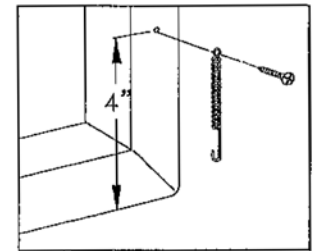

FIGURE 4
2. USING THE SCREWS PROVIDED, FASTEN THE MOUNTING HOOKS INTO THE PRE-DRILLED HOLES IN THE TOP OF YOUR SYSTEM BOARD. THE SPRINGS ARE TO BE ATTACHED TO THE LOWER HOLES. (SEE FIGURE 4)